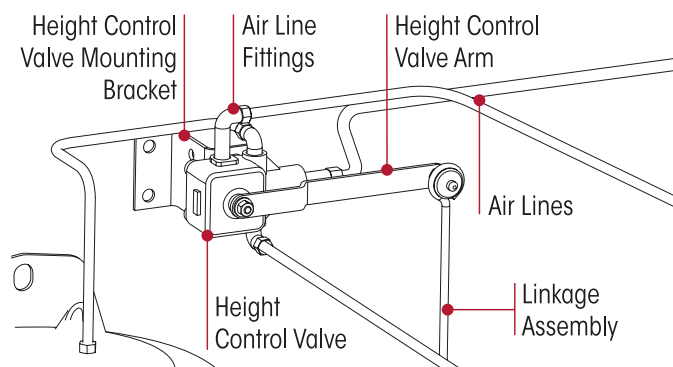

Figure 43: Height Control Valve Assembly
5. Exhaust all air from the air springs and deflate the rear suspension by using the dump button or disconnect and lower the height control valve arm(s). Refer Figure 43.